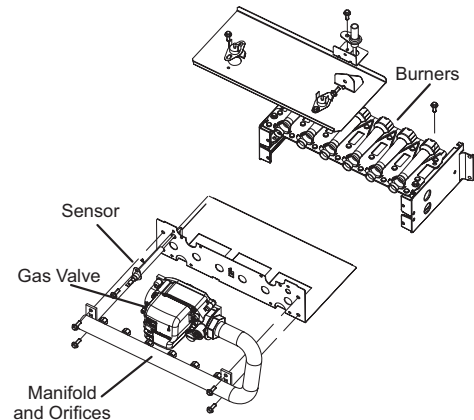

FIGURE 2
- 5 - Replace the burner orifices with the provided gas orifices. Torque to approximately 35 in-lbs. Do not use sealant on orifices. Figures 2 and 3 show manifold/gas valve assembly.